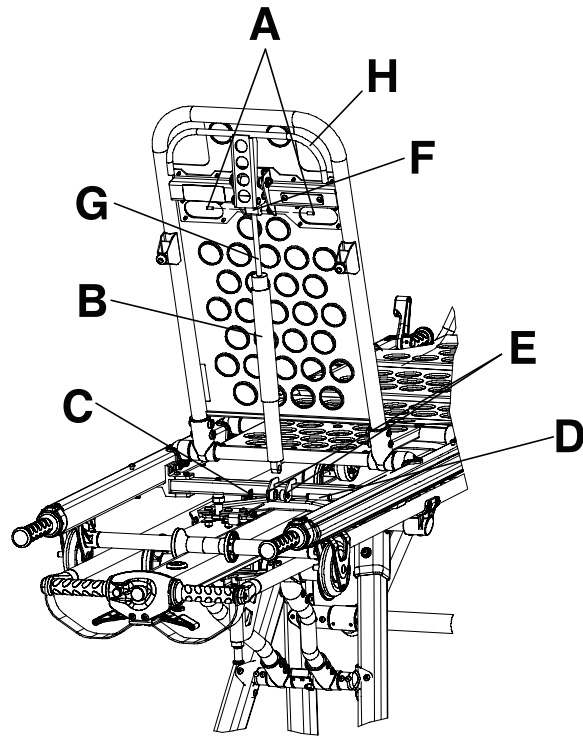

Figure 7 – Pneumatic backrest adjustment
2. Using a 3/32" hex wrench, remove the two set screws (A) from the top of the pneumatic cylinder (Figure 7).
3. Allow the cylinder shroud (B) to drop down on the cylinder (Figure 7).
4. Using needle nose pliers, remove the clip ring (C), pin (D), and spacers (F) from the bottom of the cylinder (Figure 7).
5. Turn the pneumatic cylinder shaft (G) clockwise or counterclockwise until there is no play between the cylinder and the red release handle (H) (Figure 7).
9. After you adjust the backrest, reassemble the cylinder, using Loctite® on the two set screws (A).